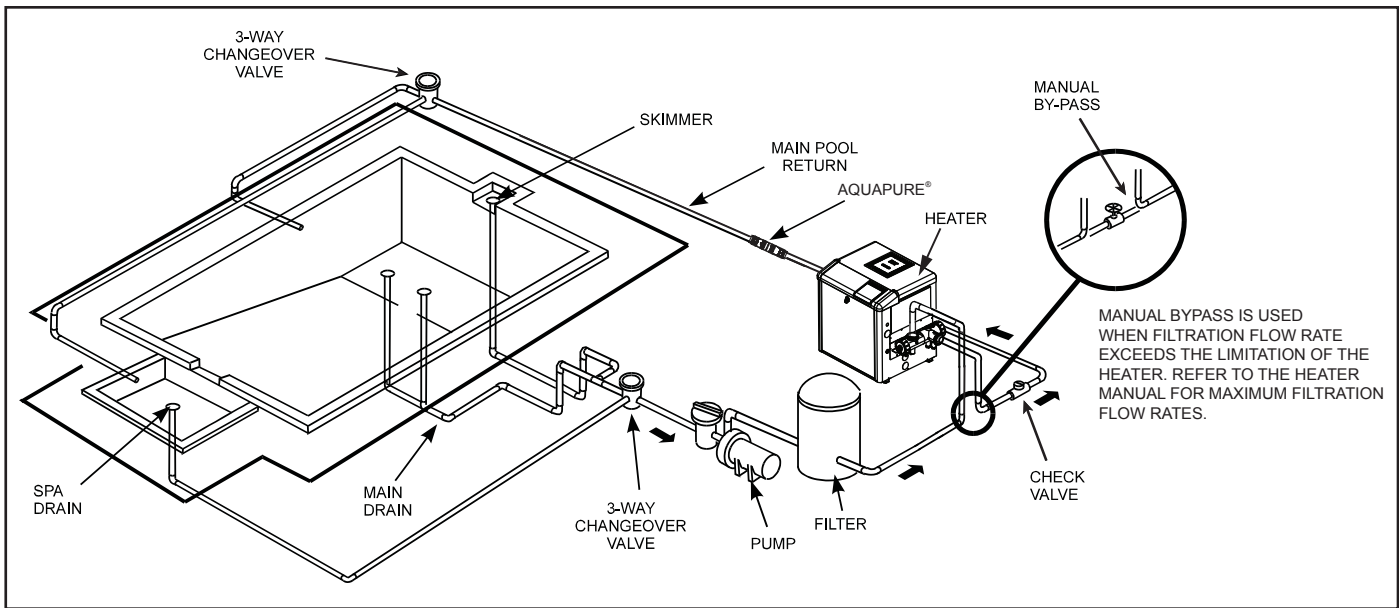

Figure 2. Typical Piping Installation
1. Zodiac recommends installing the pump within one (1) foot above water level. Refer to Figure 2 for a typical installation. The pump should not be elevated more than a few feet above the water level of the pool. A check valve is recommended on the suction line to the pump.
- The Jandy Pro Series ePump must be connected to at least two (2) hydraulically-balanced main drains (suction outlets) for each pool pump suction line. Refer to Figure 2. Each drain must be provided with covers that are listed or certified to the latest published edition of ANSI/ASME A112.19.8, or its successor standard ANSI/APSP-16. The suction outlets of the main drains must be at least three (3) feet apart or at different planes. The suction outlets